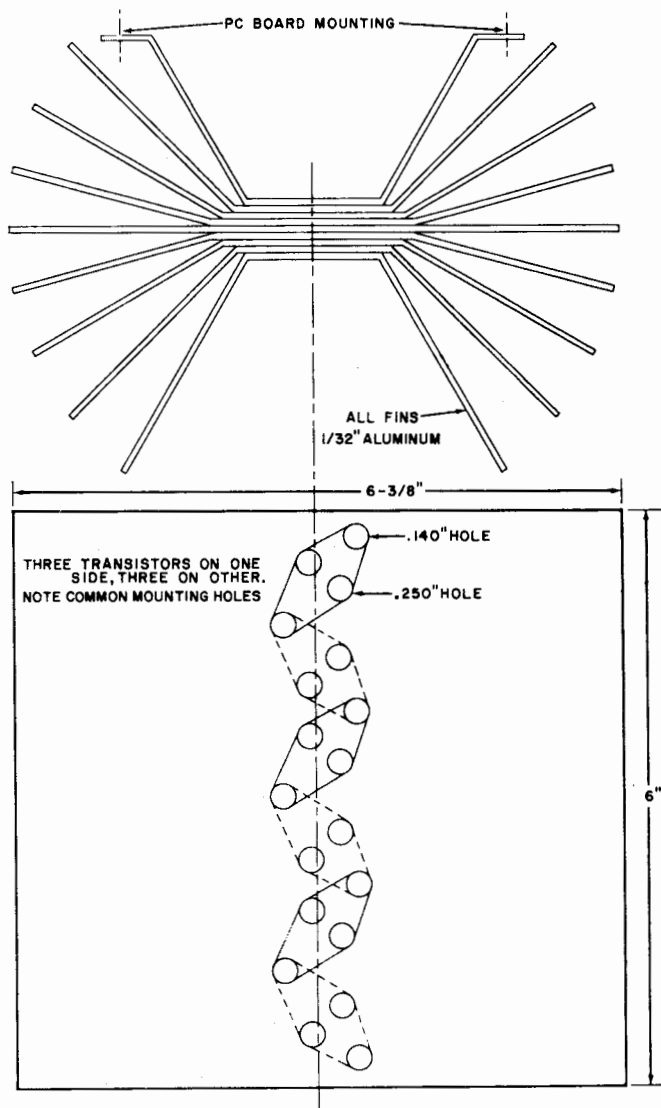

Fig. 2. Instructions and dimensions for making the heat sink. It must have at least 500 sq. in. of cooling surface.
**Construction.** The crucial element in the assembly is the construction of the heat sink. To keep the operating temperature below 100°C, the heat sink must have more than 500 square inches of area. Details of the construction are shown in Fig. 2. Note that there are nine sections of 1/32"-thick aluminum in the heat sink, with holes drilled to mount the six power transistors.